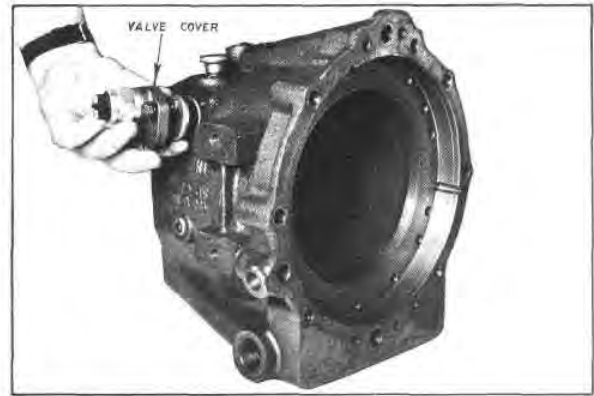

Fig. G42 — Valve Cover Removal
28. Remove the three (3) hex head bolts, lock washers, valve cover, and valve cover gasket, as shown in Figure G42.